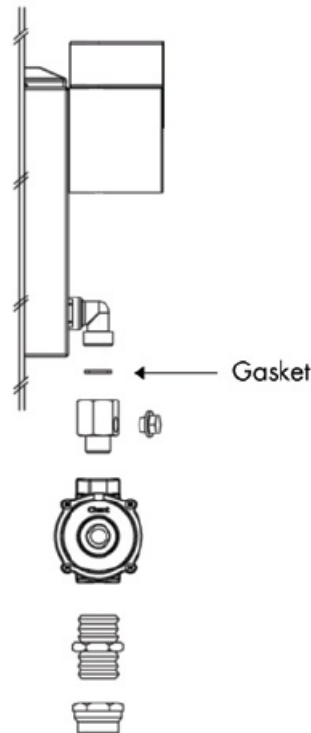

Figure 1
- For gas inlet position of appliance refer to Figures 1 and 2. After installing the gas supply and making all connections check thoroughly for possible leaks. Turn all control knobs on the unit to 'OFF' position.